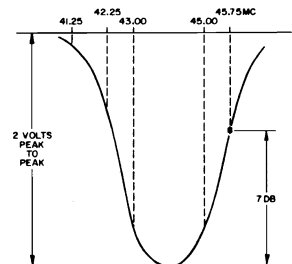

Figure 16 - Typical IF response, Mixer Amp grid to 2nd Det.
| 6. | Connect IF sweep generator to TP (M) at 44.25 MC. Couple CW generator with marker at 44.25 MC to IF sweep generator cable. Keep marker amplitude low to avoid distorting response. Adjust scope for 2V-PP. | Adjust mixer output coil and T200 for a "rocking" symmetrical response at approximately 44.25 MC with maximum amplitude and markers as shown in Figure 16. |
| 8. | IF sweep generator to TP (M) at 44.25 MC. | Wave shape as shown in Figure 16. |